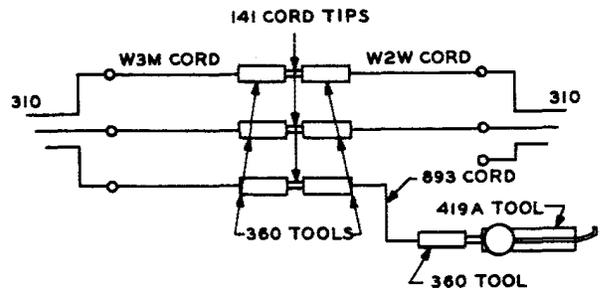

Fig. 2
- 2.13 W3M cord, equipped with a No. 310 plug and three No. 360 tools (3W4B cord). A W2W cord, 6 feet long, equipped with a No. 310 plug and two No. 360 tools (2W17A cord). A No. 893 cord, 6 feet long, with a No. 360 tool at each end (1W13B cord). One No. 419A tool and three No. 141 cord tips. Connect as shown in Fig. 2 (for connecting test set to A relay and commutator segment of trunk finder, when the test jack is not located on trunk finder).
Insert No. 310 plug of W3M cord, Fig. 2, into LF jack